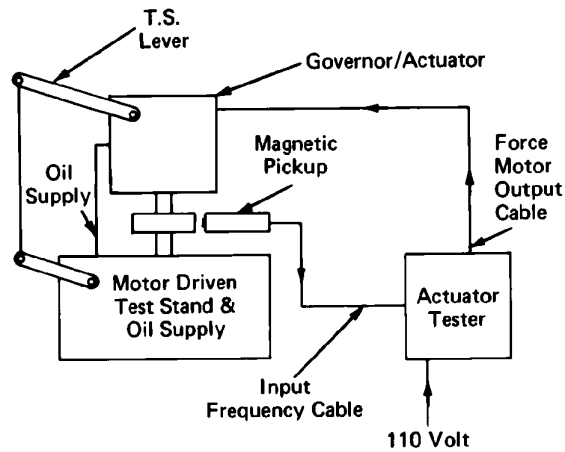

Figure 1-6. Test Hookup for Compensated Actuator
Testing a compensated (integrated) electric actuator or governor/actuator requires a magnetic pickup kit assembly. Testing an EGR actuator requires a remote servomotor mounted on the test stand. Figure 1-6 shows the test hookup for a compensated actuator.
1. Install actuator on test stand in same position as it is on prime mover (see Figure 1-6).